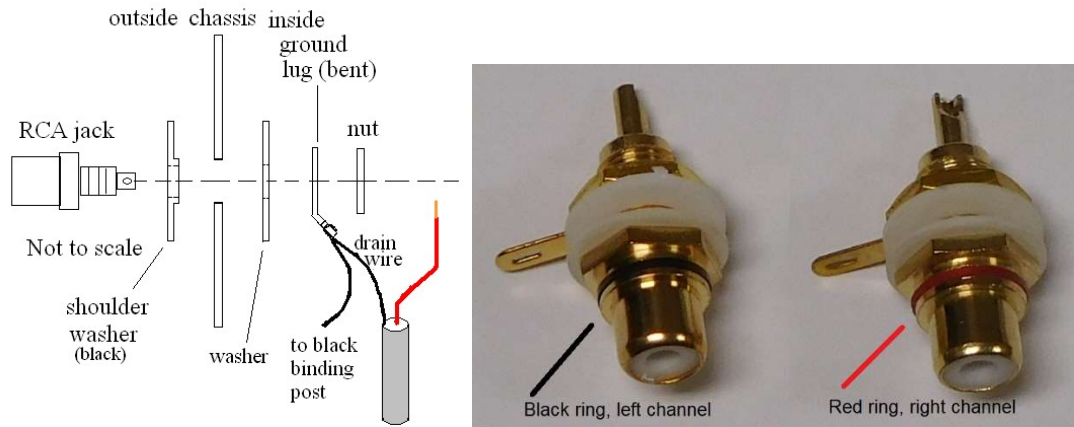

**Figure 35-Installing power wires on the switch**
9. Starting with the switch outside the chassis, push the FASTONS on the bottom switch terminals as indicated in Figure 35. The black or white wire may be on either side of the switch, so long as they both attach to the *bottom row* of contacts.